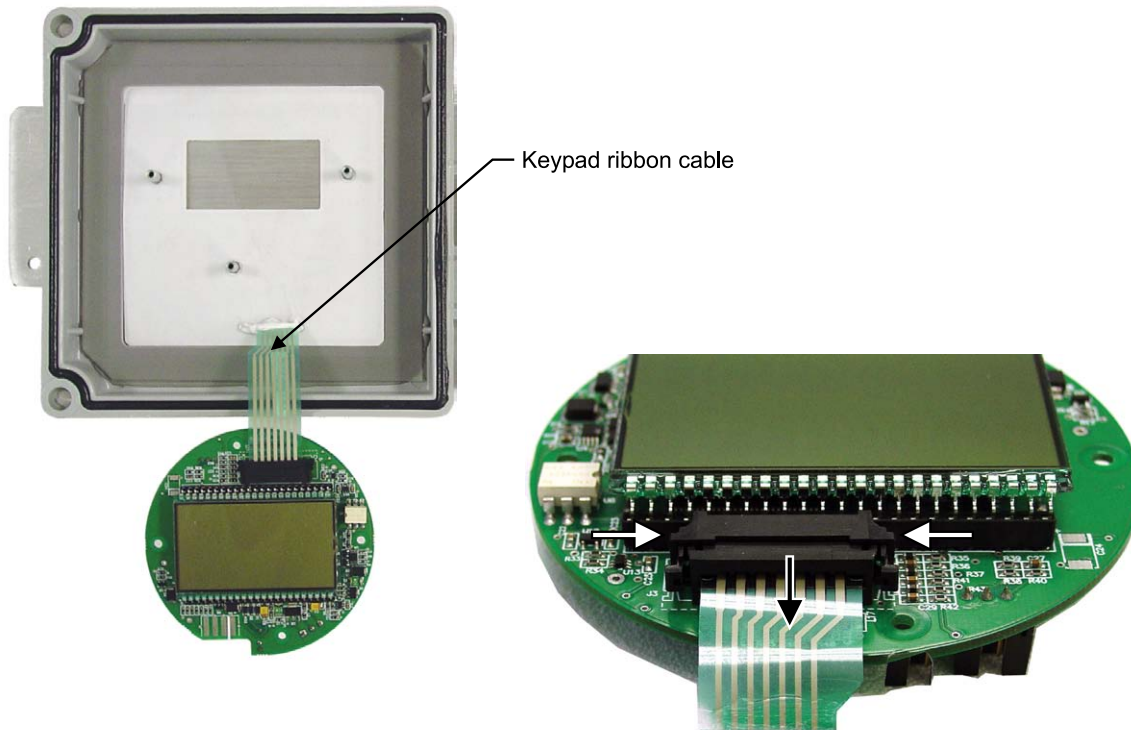

Figure 6.5—To release the ribbon cable from the connector, press in on the side tabs of the connector (white arrows) and gently pull forward (black arrow).
- a. Grasp the black clip between a thumb and forefinger (see white arrows in Figure 6.5, page 94).
2. Vertically flip the circuit board over to view the opposite side of the board where the LCD is mounted. The keypad ribbon cable will remain attached to the circuit board (Figure 6.5).
- a. Grasp the black clip between a thumb and forefinger (see white arrows in *Figure 6.5, page 94*).